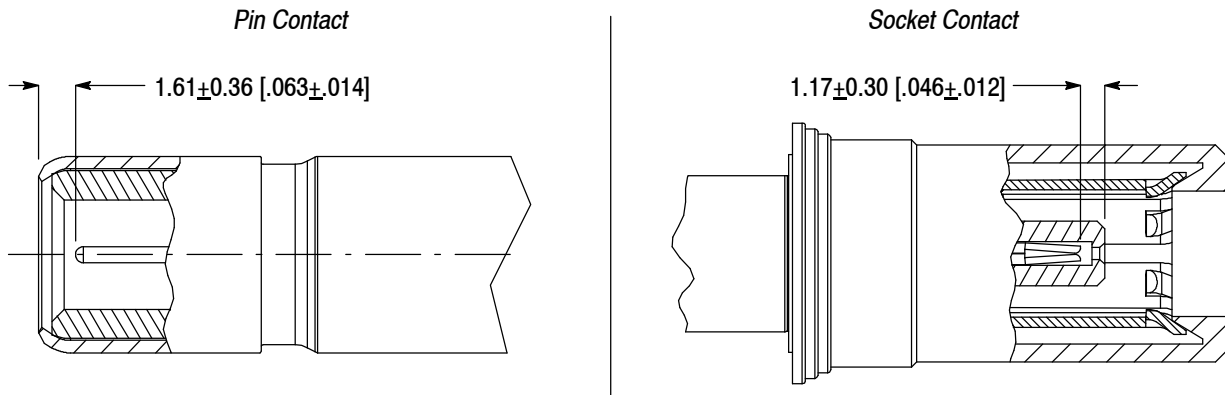

Figure 6
1. The crimped coax cable must be fully seated against the connector dielectric. The crimped contact must be located within the dimensions given in Figure 6.